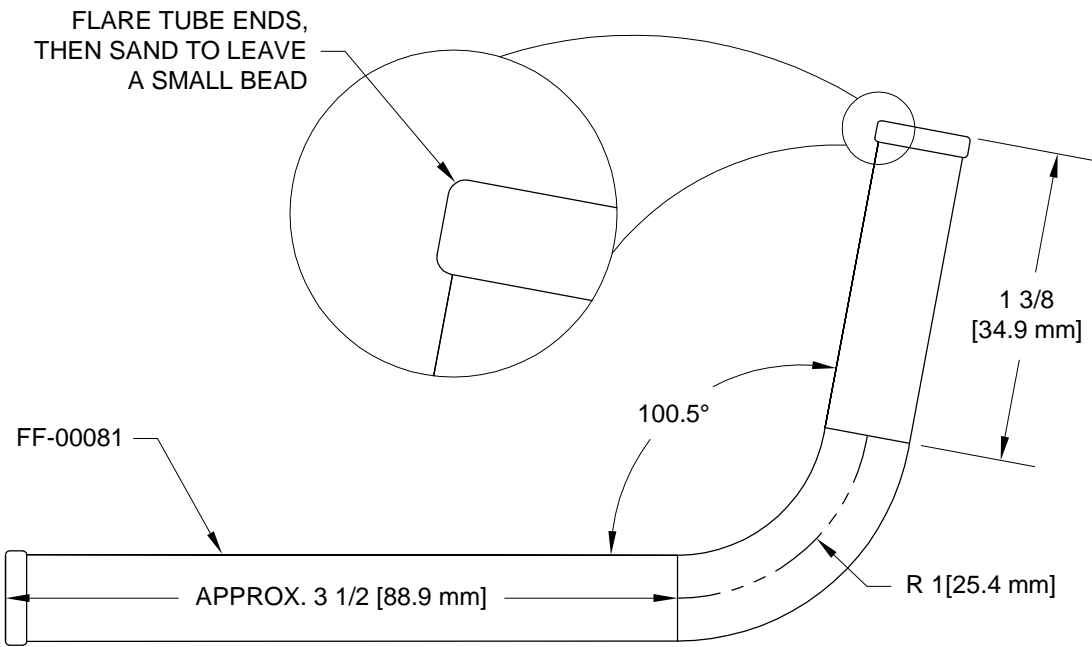

FIGURE 1: SNIFFLE LINE TEMPLATE
Step 3: As shown in Figure 1, fabricate the FF-00081 Sniffle Line from the aluminum tube cut in Step 2.